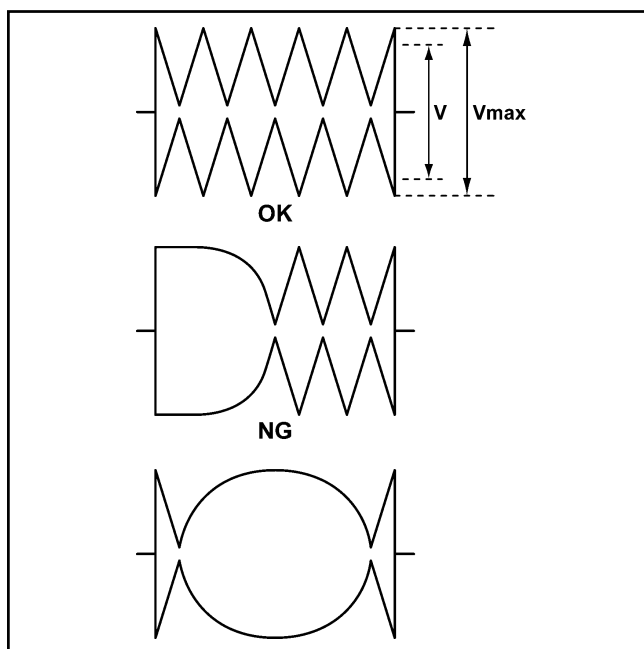

Figure 1-23
SPEC	See figure 1-23 $V/V_{max} \geq 0.9$
- Waveform must be Diamond Style. (Figure 1-23)